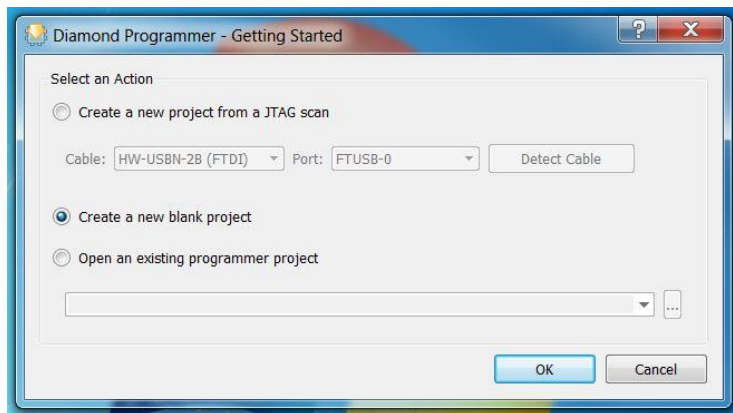

Figure 3.1. Diamond Programmer New Blank Project
1. Create a new blank project in Diamond Programmer as shown in Figure 3.1.